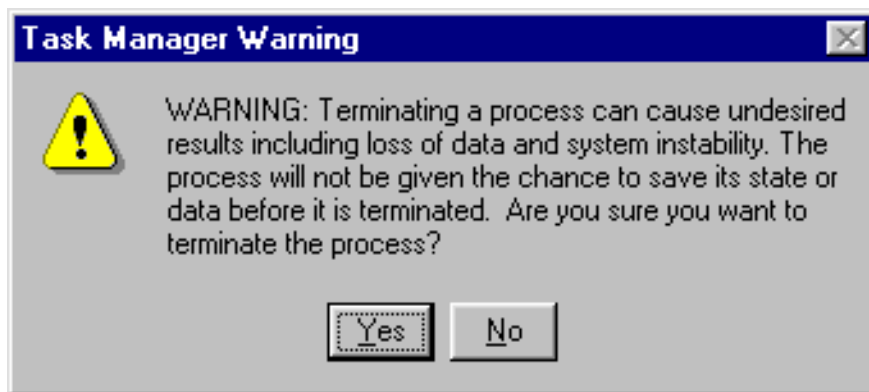

FIGURE 1-8. Task Manager Warning
1.23 Touch 'Yes' in the Task Manager Warning dialog to end the task. See FIGURE 1-8.